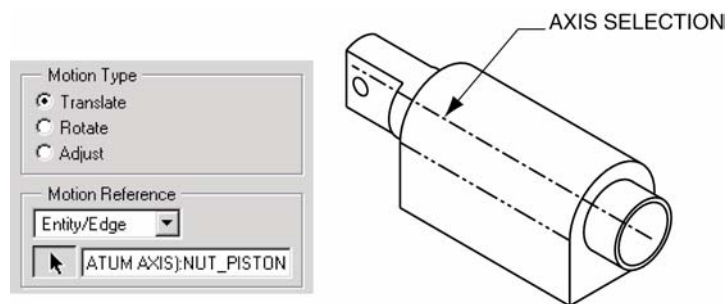

Figure 12-97: Move Option
Step 17: With the Translate and Entity/Edge options selected, pick the axis of the piston part (see Figure 12-97).
Step 18: Move the Piston part's location to approximately match Figure 12-97 then select the Place tab.